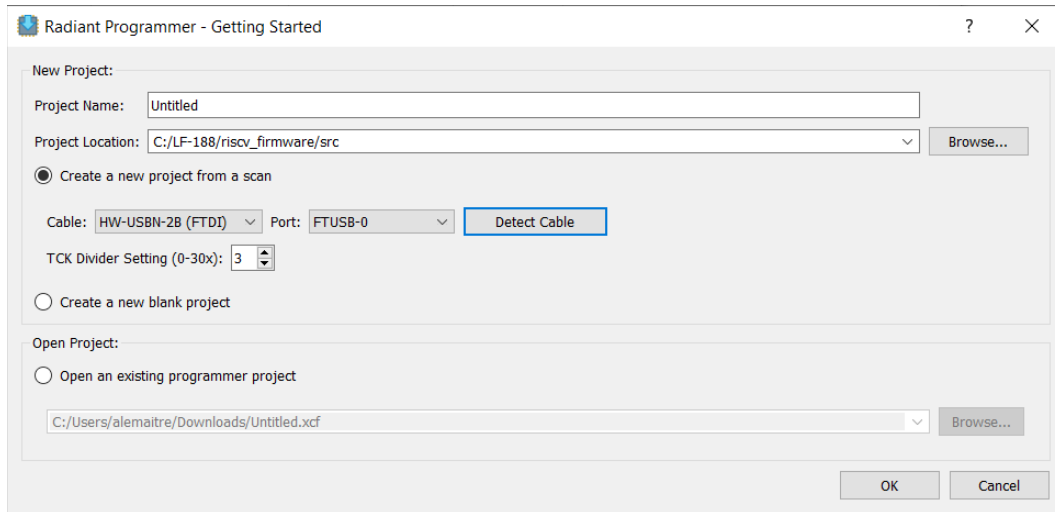

Figure 2.2. Radiant Programmer New Project Window
2. Launch the Radiant Programmer. A new project window as shown in Figure 2.2 is displayed. If the **Cable** option is not set, the CrossLink-NX-33 VVML board is not connected properly to the host computer.